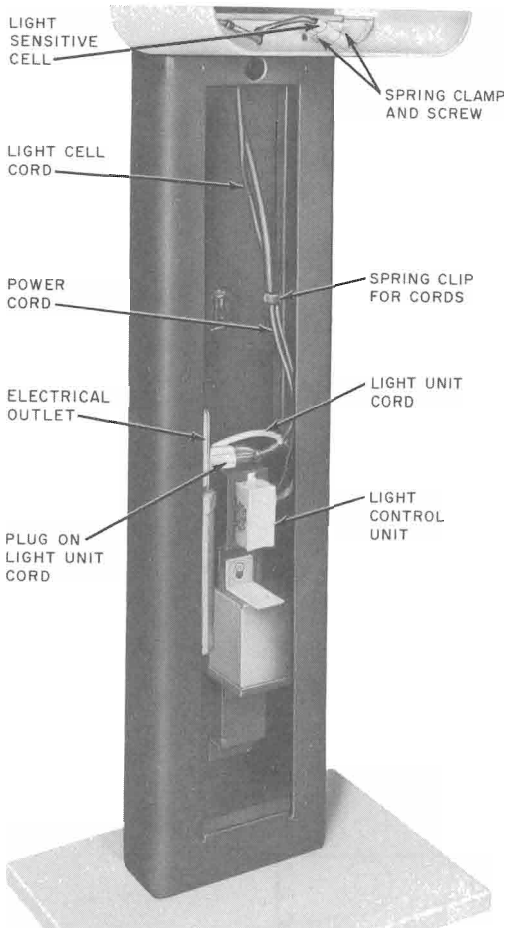
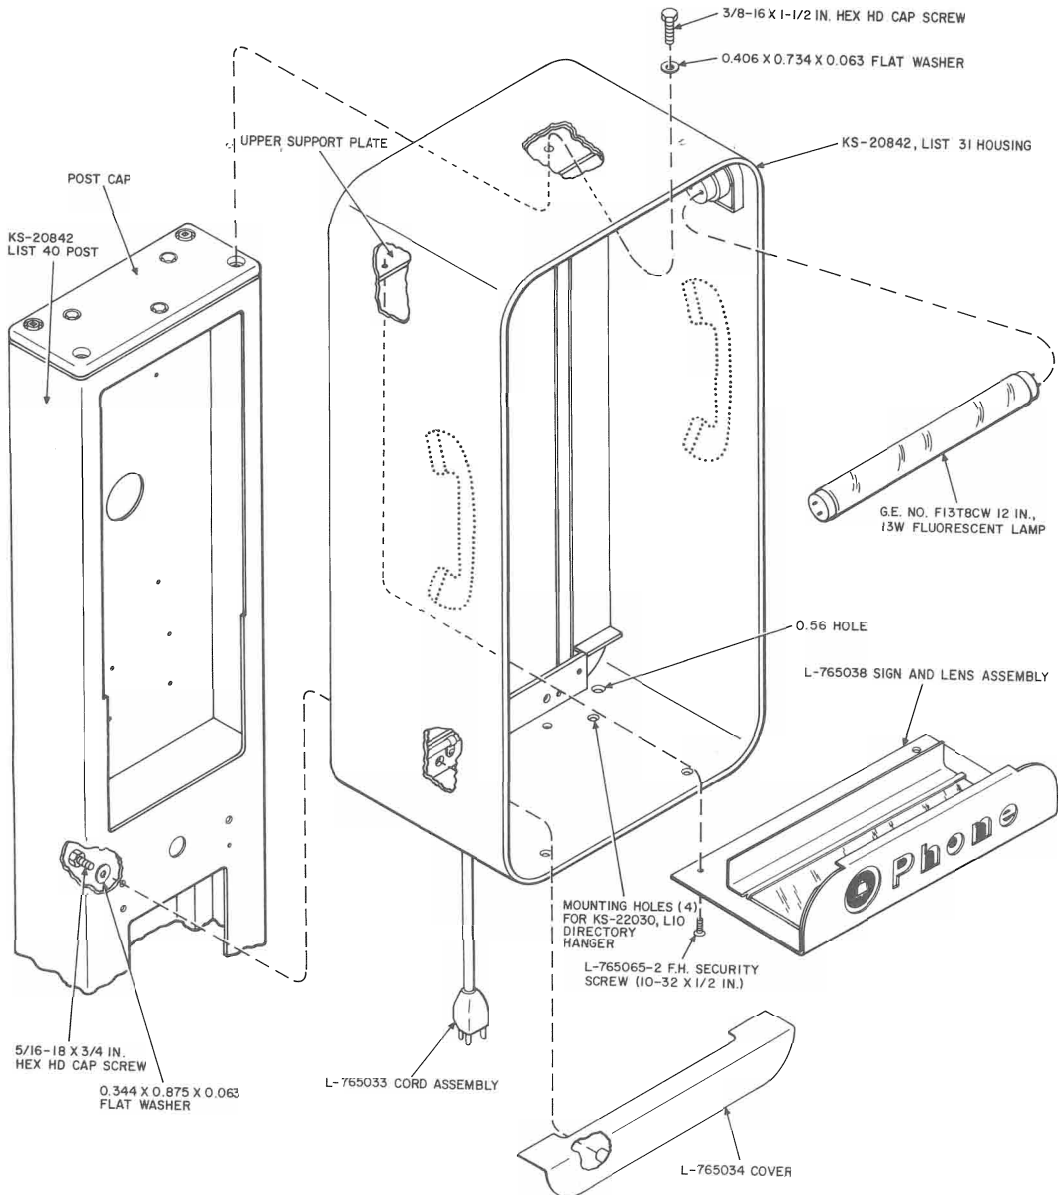

Fig. 8—Installation of KS-19261, List 4 Light Control Unit
Fig. 11—Installing List 31 Housing on Post
3.06 Install the KS-20842, List 31 housing on the post (Fig. 11) as follows:
- (1) Remove the two screws and washers and the L-765034 cover from the lower part of the KS-20842, List 31 housing (Fig. 11).
- (2) Install the light control unit on the mounting bracket inside the post assembly and secure using the two 6-32 by 1/4 Phillips pan head screws (Fig. 8).
- (3) Insert the light sensitive cell, from inside the post, through the keyhole in the lower part of the housing.
- (4) Using the two clamps and two 8-32 by 1/4 Phillips pan head screws, secure the light cell to the housing as shown in Fig. 8. Position the end of the cell so that it will just touch the edge of the 0.56 hole (Fig. 11) in the bottom of the housing.
- (5) Remove the power cord from the electrical outlet.
- (6) Plug the light unit cord into the electrical outlet.
- (7) Insert the power cord into the rear of the light unit plug.
- (8) Press both the power cord and the light cell cord into the spring clip inside the post.
- (9) Install the L-765034 cover in the lower part of the housing using the two 5/16-18 by 3/4 hex head cap screws and two 0.344 by 0.875 by 0.063 flatwashers removed in (1). Reach in through opening on post and insert the screws through the post, through the housing, and into the rear of the cover (Fig. 11).
3.16 When the KS-20842, List 31 housing is used, install a KS-20030, List 10 directory hanger to the bottom of the housing using the four L-765065-2 flat head security screws (No. 10-32 by 1/2) and four No. 10 nylon-insert nuts supplied with the hanger and the KS-19192, List 1 wrench. See mounting holes on Fig. 11.